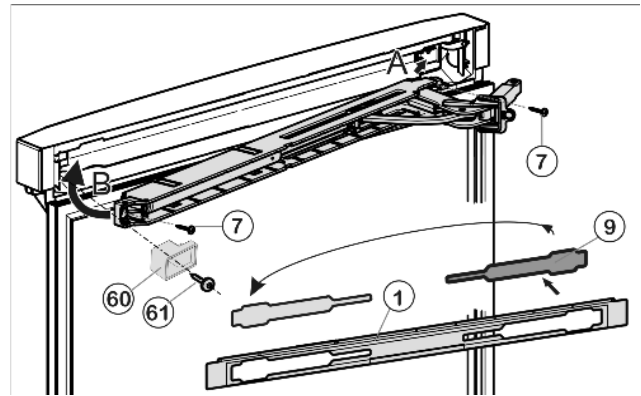

Fig. 36
- ▶ Loosen cover Fig. 36 (9) from the panel Fig. 36 (1) and insert on the other side.
- ▶ With the hinge of the upper soft stop unit facing the door hinge side, engage the soft stop unit (A) and swivel inwards (B).
- ▶ Tighten soft stop unit (2 x Torx 15) Fig. 36 (7).
- ▶ Screw on spacer Fig. 36 (60) .